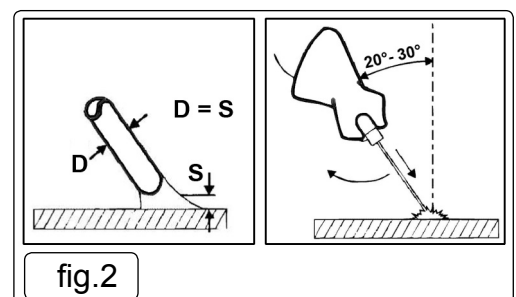

fig.2
- 5.1.2. As soon as the arc is struck, maintain a distance from the workpiece equal to the diameter of the electrode. Keep this distance as constant as possible for the duration of the weld. As you advance along the workpiece the angle of the electrode must be maintained at between 20° and 30°. See fig.2.